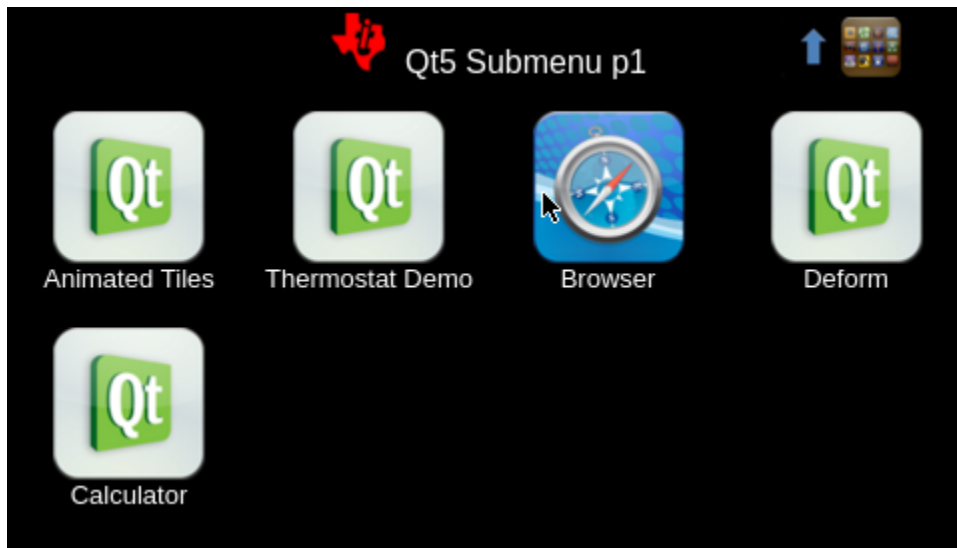

Figure 7. Qt5 Submenu
2. Figure 7 shows the Qt5 Submenu, which is the next screen that appears. Click on the *Thermostat Demo* icon.